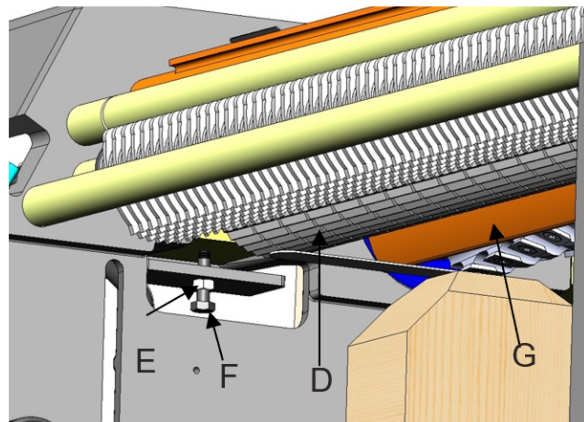

FIG. 18: INFEEED ROLLER ADJUSTMENT
2. Remove feeler gauge and place wood block under the left side of infeed roller (Fig.18, D). The top of wood gauge should just contact the infeed roller. If it doesn't, loosen jam nut (Fig. 18, E) and turn the adjusting screw (Fig.18, F) to raise, or lower the infeed roller until it contacts wood gauge then tighten the nut (E). Repeat for opposite side of the infeed roller.